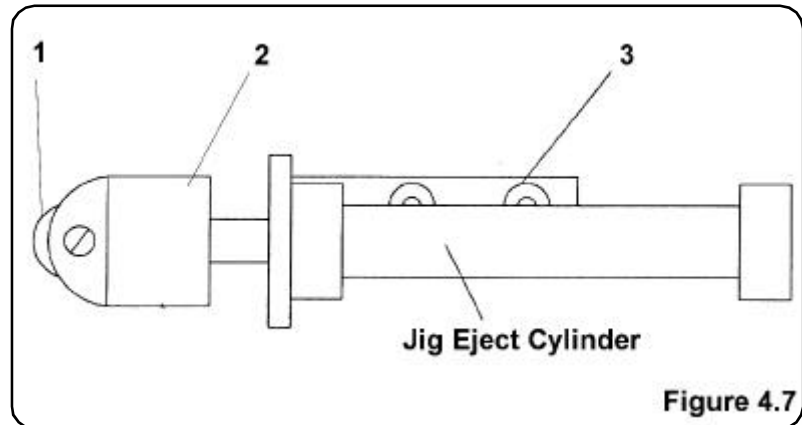
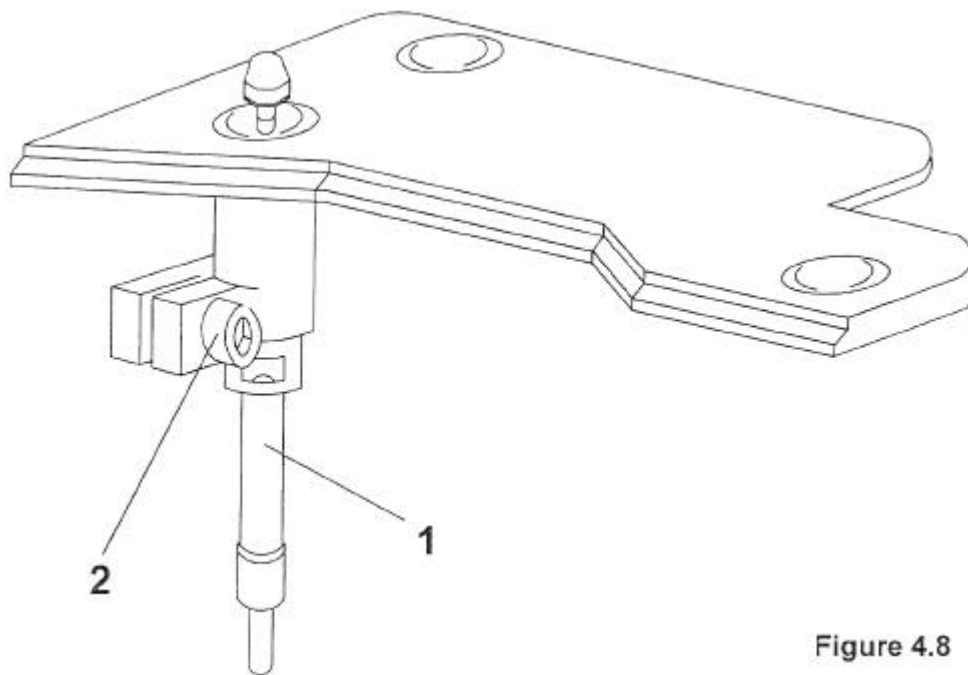

Figure 4.7
Figure 4.8
The jig eject assembly acts as both an ejection system and a jig correction system. The jig eject bearing, ( item 1, Figure 4.7), must be set up to clear a jig from under the head at the end of the sew cycle. To adjust the position of the jig eject assembly undo screws 3, Figure 4.7 and move the assembly in or out. Once the optimum position has been achieved, tighten the screws, load the jig into the machine and check to make sure it ove freely without binding between the jig eject bearing and the snubber head, (item 2, Figure 4.6).
To adjust the jig flap cylinder, (item 1, Figure 4.7), release screw 2, Figure 4.8 and adjust the cylinder up or down until the jig can be loaded into the machine without obstruction.